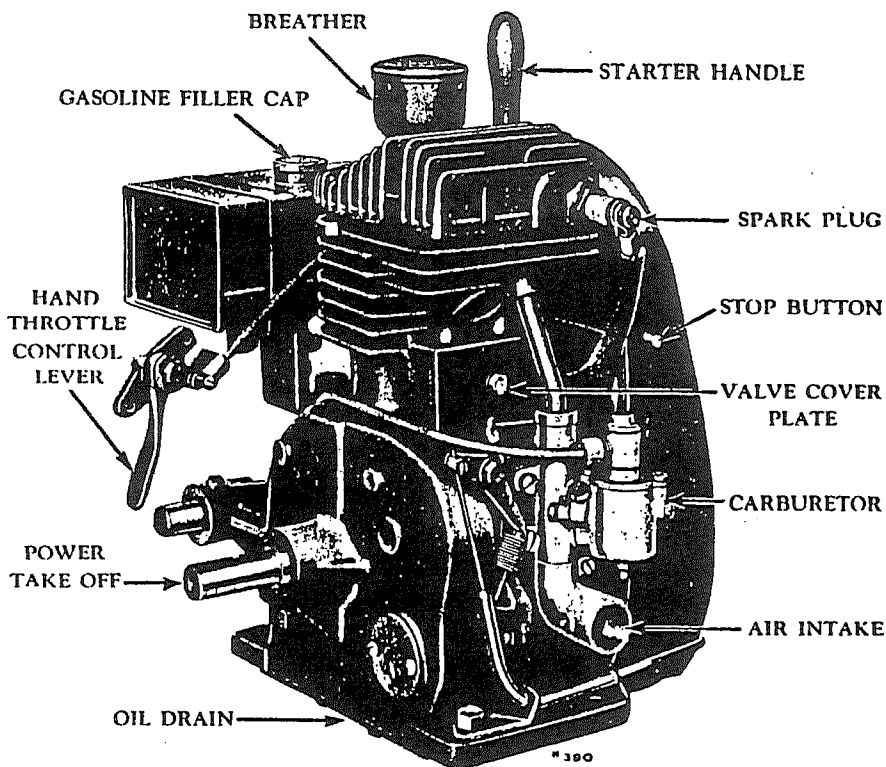

Fig. 1.
13. After each fifty hours of operation, the old oil must be completely drained from crankcase by removing oil drain plug located in center of plate under motor. (See figure 1 on page 5). Drain out the oil when the motor is hot, because hot oil drains out quickly and thoroughly. Then replace the drain plug and refill with fresh oil. We do not recommend flushing out with kerosene. In the normal running of any motor small particles of metal from the cylinder walls, pistons and bearings will gradually work into the oil. Dust particles from the air also get into the oil. Sludge forms a gummy mass which clogs up the oil passages. If oil is not changed regularly, these foreign particles cause increased friction and a grinding action which shortens the life of the motor.
17. The oil filler plug is located in the rear of the motor, directly under the starter shaft, (Figure 1 on page 5). With motor level remove filler plug and pour in oil until it rises to the level of the filler plug opening. The capacity of the oil reservoir is about 1 pint.
20. Choke carburetor by turning choke lever in horizontal position. (See Figures 1 and 2). Closing the choke shutter chokes off air going to the carburetor the same as the choke on your automobile.
to the carburetor or the gas shut off valve is stopped up. Disconnect the gasoline pipe at the carburetor (See figure 1) and also at the gas tank. Blow through the gas line to see if it is clear. If no obstruction at this point, remove the gas shut off valve which is screwed in to the gas tank proper. In this valve you will find a screen which may be clogged.